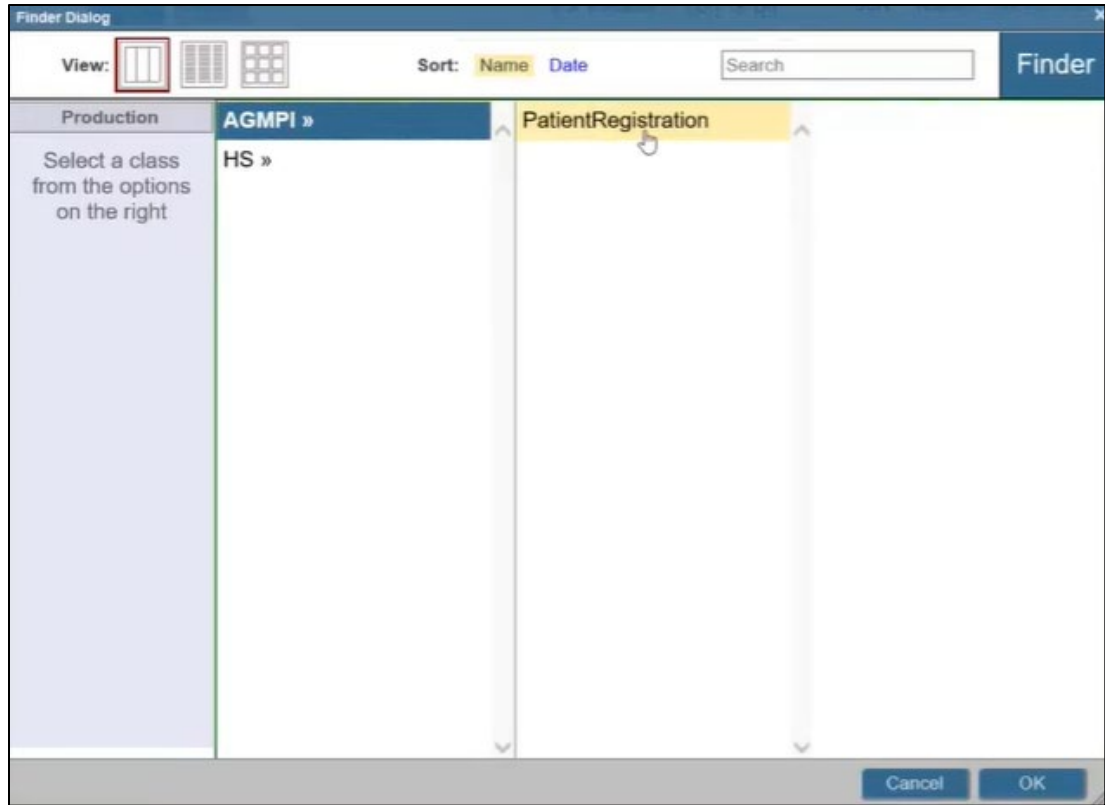

Figure 3-9: Finder Dialog
3. In the **Finder Dialog** box, click on **AGMPI** then **PatientRegistration** (Figure 3-9). The new production opens in the **Production Configuration** window.